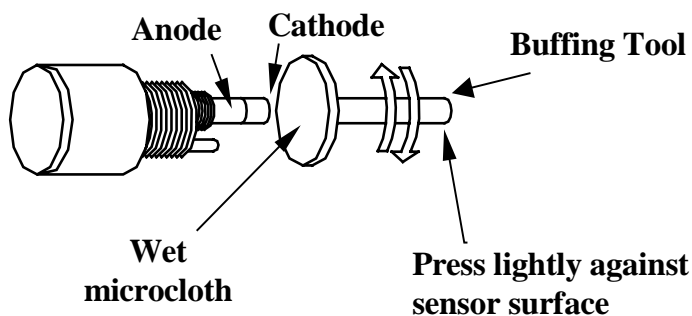

Figure 6
**Anode Cleaning Procedures** (See figure 6)
- ✓ Twist the buffing tool back and forth three times in opposite directions while lightly pressing the buffing tool against the sensor surface (see figure 6).